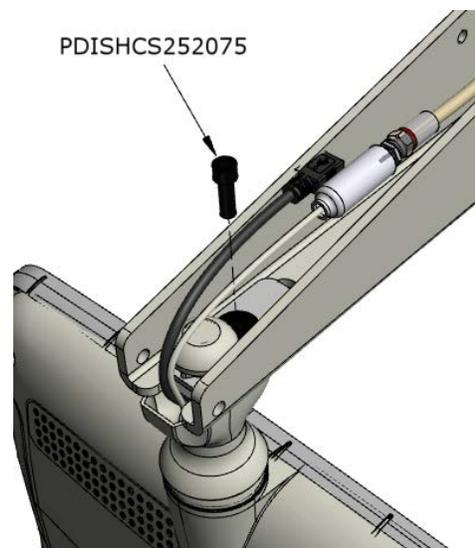

Fig.2
2. Secure PDISHCS252075 bolt with a 5/32" allen wrench and make coax cable connections as shown in Fig. 2